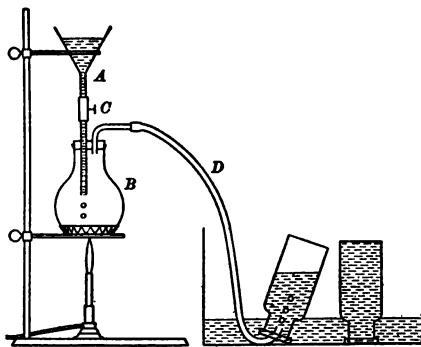
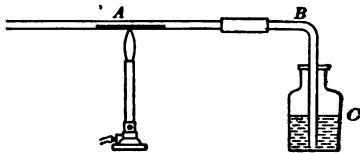

FIG. 45
FIG. 46
a. Arrange an apparatus according to Fig. 45. Remove the stopper from the flask *B* (Fig. 45), pour in 15 cc. of sulfuric acid and connect the apparatus as shown in the figure. Close the clamp *C* and partially fill the funnel *A* with formic acid (50 per cent acid). Now open the clamp carefully so that the formic acid will enter the flask, a drop at a time. Allow
b. Introduce into the tube *A* (Fig. 46), a small amount of copper oxide and arrange the apparatus as shown in the figure. Now connect the exit tube *D* (Fig. 45) with the tube *A* (Fig. 46). Heat the copper oxide gently; at the same time pass a slow current of carbon monoxide through the tube, generating the gas as described in *a*. Continue until the limewater and copper oxide both have visibly changed. Describe the results and write the equations for all the reactions involved.